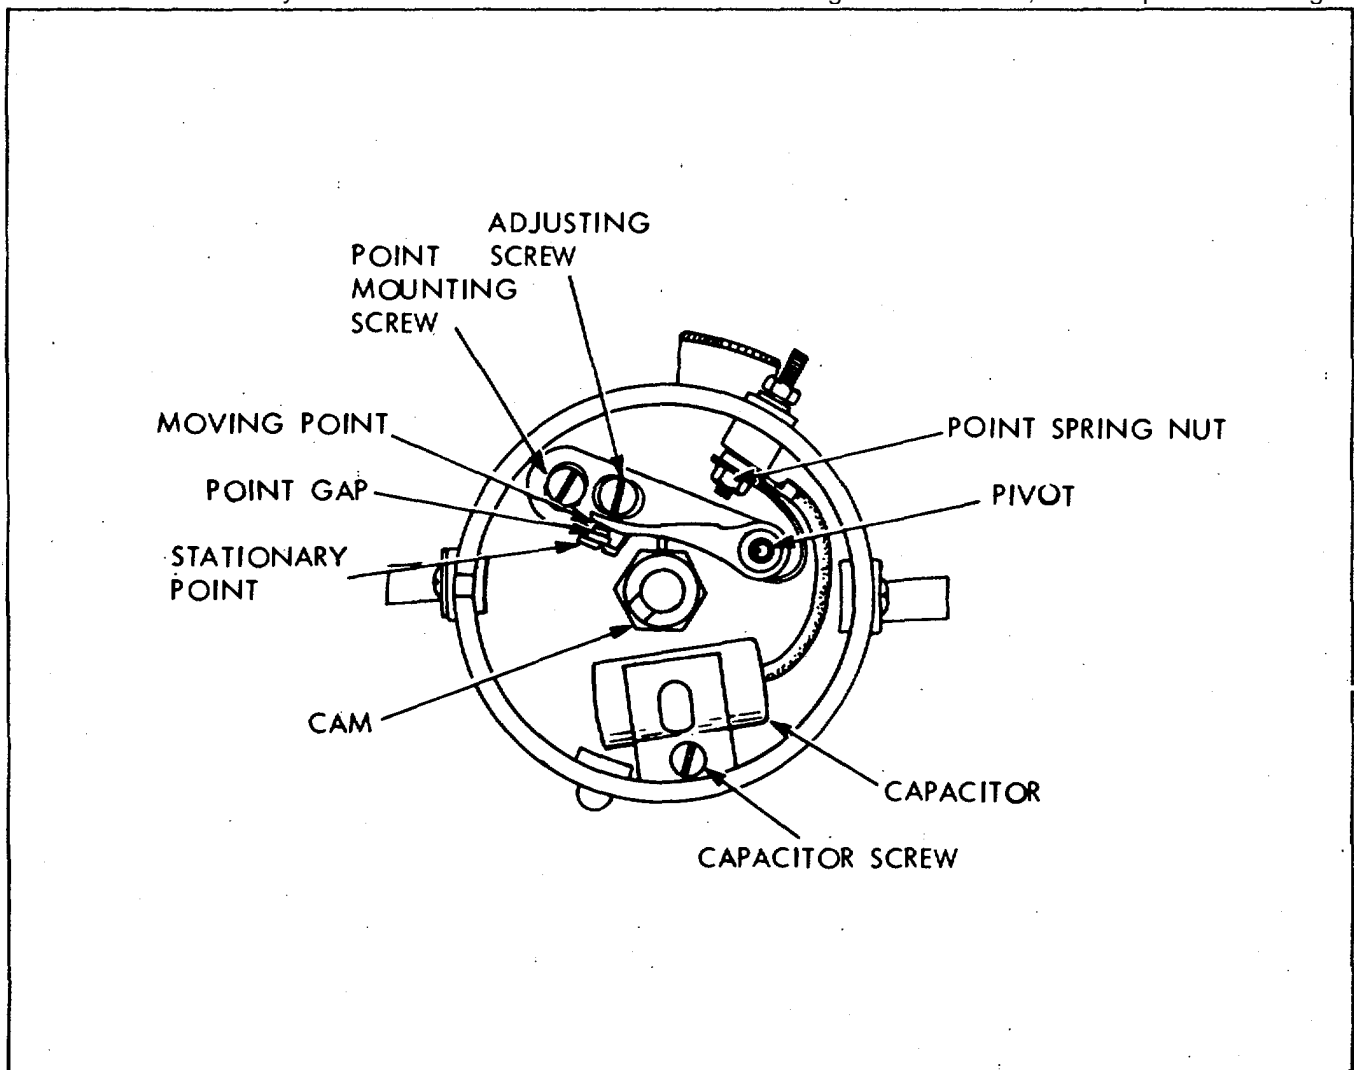

Figure 6-21. Distributor, Cap Removed
(1) Inspect the distributor cap for cracks, carbon streaks, corroded terminals, and dirt.
(2) Inspect the rotor for cracks and the metal strip for burned condition.
(3) Inspect cap electrodes for burning or corrosion.
(4) Inspect contact set. Point contact faces must be clean and unburned in appearance (frosty appearance of used points is normal, not cause for replacement), and contact surfaces must be aligned and parallel.
(5) Check wear of shaft bearing in housing. If shaft can be moved sideways more than 0.003 inch, replace distributor assembly.
f. Contact point adjustment. (Refer to Figure 6-21) With the distributor cap, rotor, and housing cover seal removed, and the rubbing block of movable contact at the high point of the cam, check the contact point gap by inserting a 0.022 inch feeler gauge between the contact points. If an adjustment is necessary, loosen the mounting screw and turn slotted head eccentric to move the stationary point contact support until the proper gap is attained. After adjustment is completed, tighten the mounting screw. Also, check points for alignment.